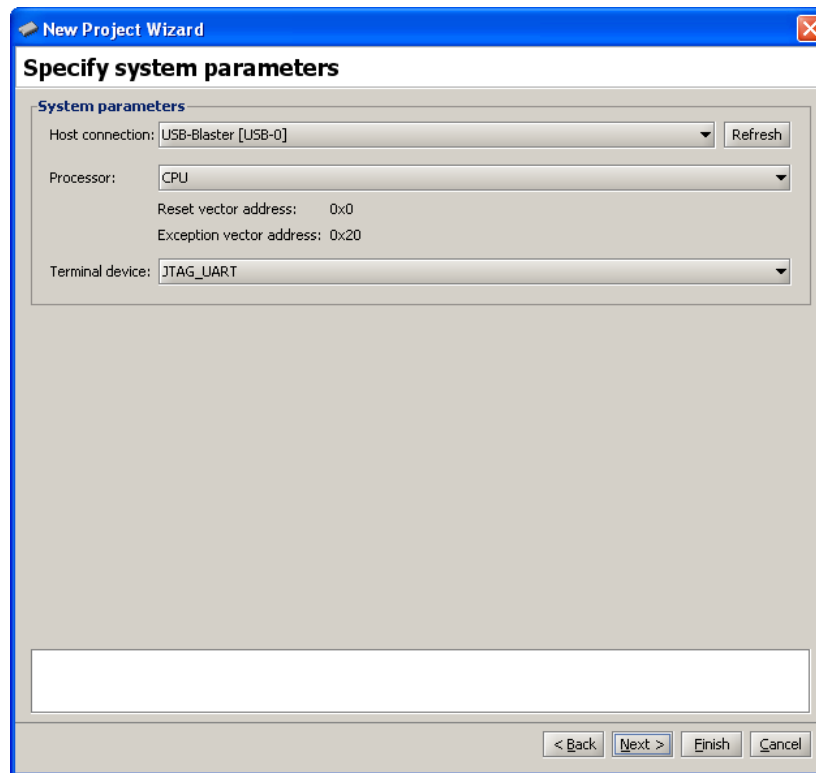

Figure 9. Specifying system settings.
- Click **Next** to advance to the window in Figure 9. This dialog is used to specify the connection to the FPGA board, the Nios II processor that should be used (some hardware systems may contain multiple processors), and the terminal device. The **Host connection** drop-down list contains the physical connection links (such as cables) that exist between the host computer and any FPGA boards connected to it. The Nios II processors available in the system are found in the **Processor** drop-down list, and all terminal devices connected to the selected processor are displayed in the **Terminal device** drop-down list. We discuss terminal devices in section 6.
For this tutorial, accept the default values that are displayed in Figure 9.